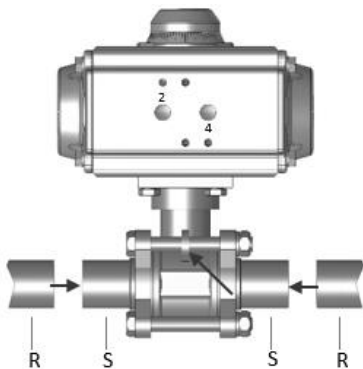

Figure 6: Positioning of butt weld ends
1. Center and tack butt weld ends **S** on the right and left of piping **R**, see Figure 6.